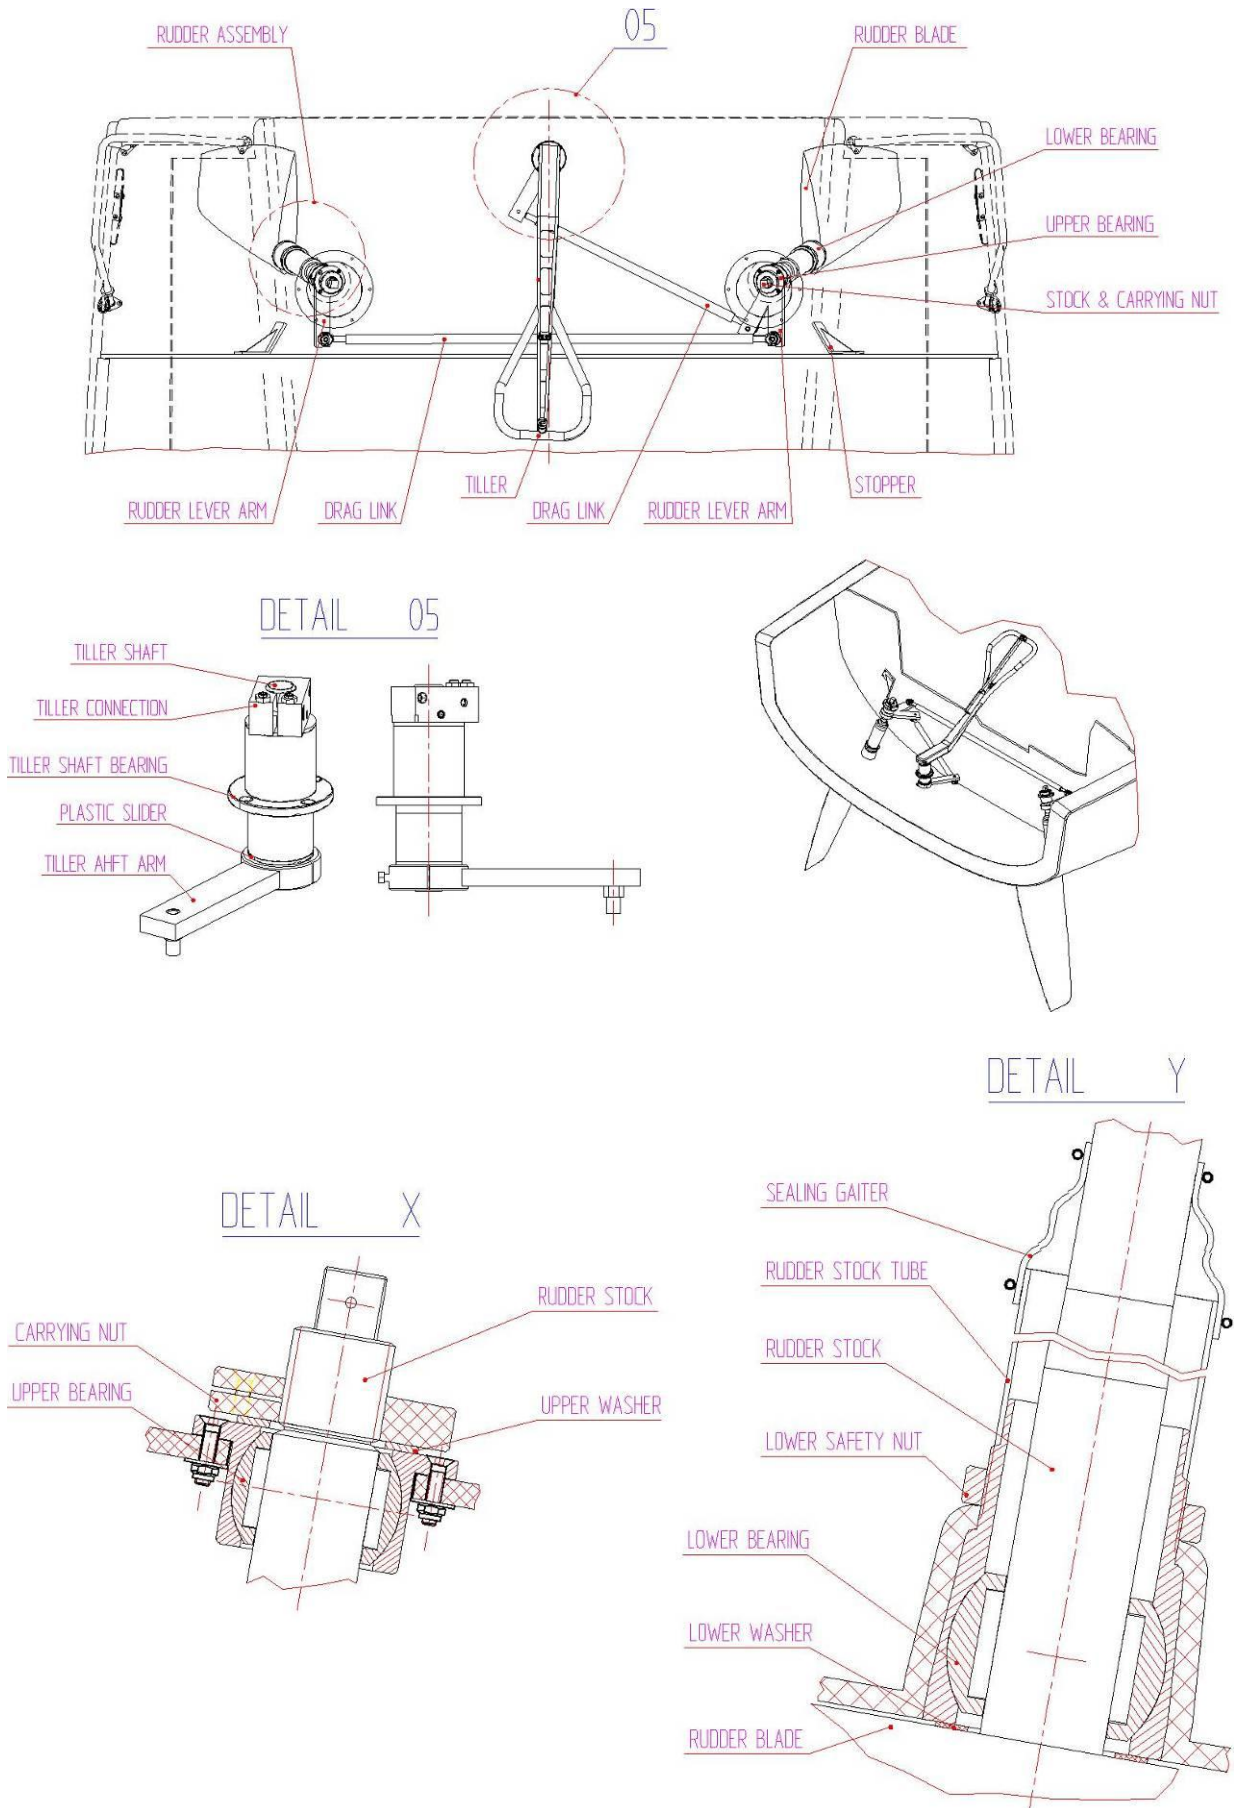

Figure 16
- In case of a defect of the mechanism, first remove the drag link (Fig.16)